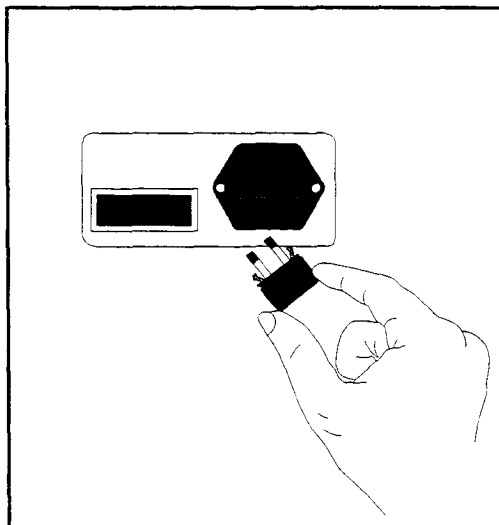

Figure 4-2
- Step 2 Pull the fuse holder completely out of the unit as shown in Figure 4-2..
- Step 4 Insert the fuse holder back into the unit as shown in Figure 4-2
- Step 4 Push the fuse holder back into the unit until it snaps into place. See Figure 4.2.